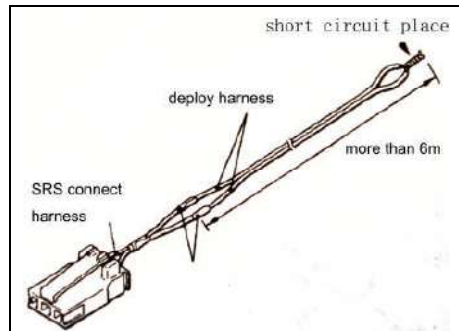

Fig 19-36
③ Connect deployment harnesses longer than 6m to each SRS air bag adapter harness and insulate the connections with plastic tape. (See fig 19-36)